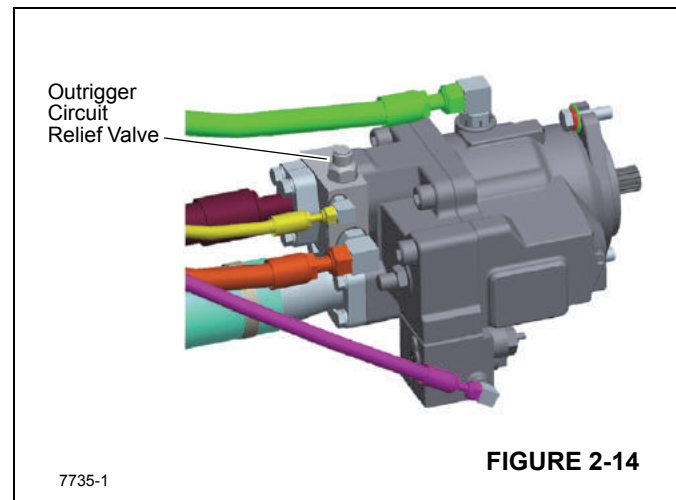

FIGURE 2-14
1. The outrigger circuit has a single relief valve in the pump manifold with a setting of 207 bar (3000 psi) as shown in (Figure 2-14).